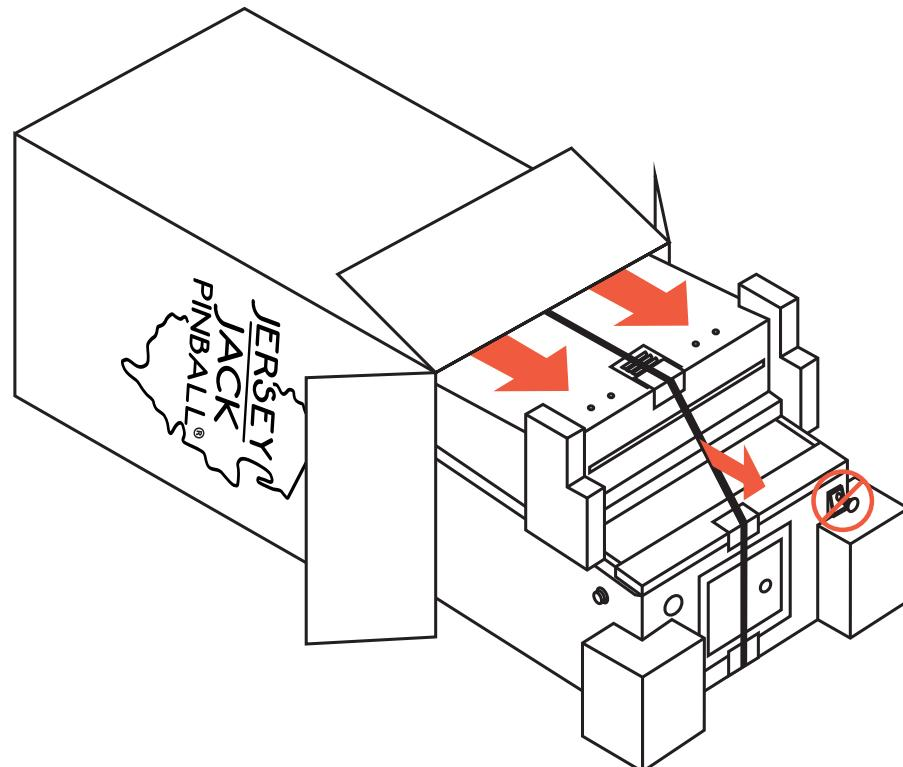

Figure A3a. Sliding the game out of the carton.
- 2)** With the help of at least one other person, carefully tip the carton over and lay it on its "TRUCK THIS SIDE ONLY" side (see figure A3a). Using the nylon strap as a handle (**DO NOT PULL ON THE GAME'S BALL SHOOTER!**), slide the game and packing materials out of the carton.